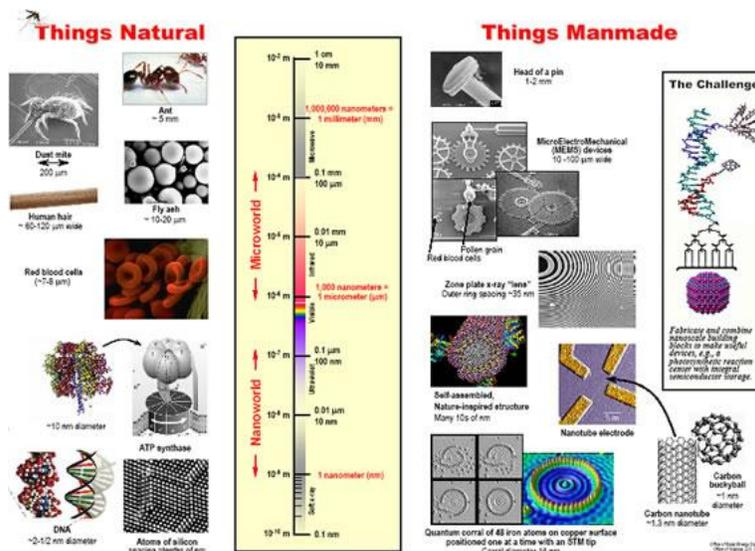

Figure 1
Image Insert Figure 1 here, centered
Caption: Figure 1: Understanding nano- compared to everything else
Figure 1 one shows nano- as it relates to other items. At each scale, naturally occurring and manmade items exist. Nanotechnology is the study or use of structures at a nano-scale and refers to the manmade items denoted in Figure 1.
Post-Lesson Assessment: The attached worksheet is to be used as a post-lesson assessment. Instruct the students to use Figure 1 to fill in the information requested. There are two options for this assessment. (1) Students can use the template attached (how_small_is_nano.tmp) and fill in the information required. This allows students to use the capability of excel functions. (2) Students can complete the worksheet by hand (how_small_is_nano.pdf).